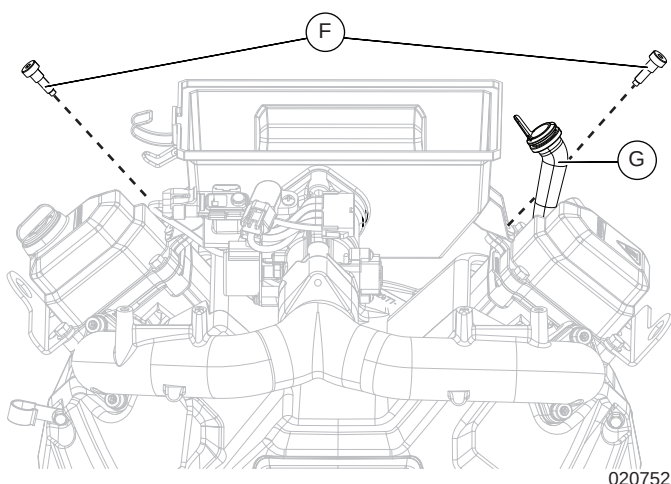

Figure 6-9. Remove Airbox Bolts and Breather Hose
5. See Figure 6-9. Remove air box base mounting bolts (F) from cylinder head and gently dislodge breather hose (G) from air box. Take care not to damage breather hose when removing from air box.